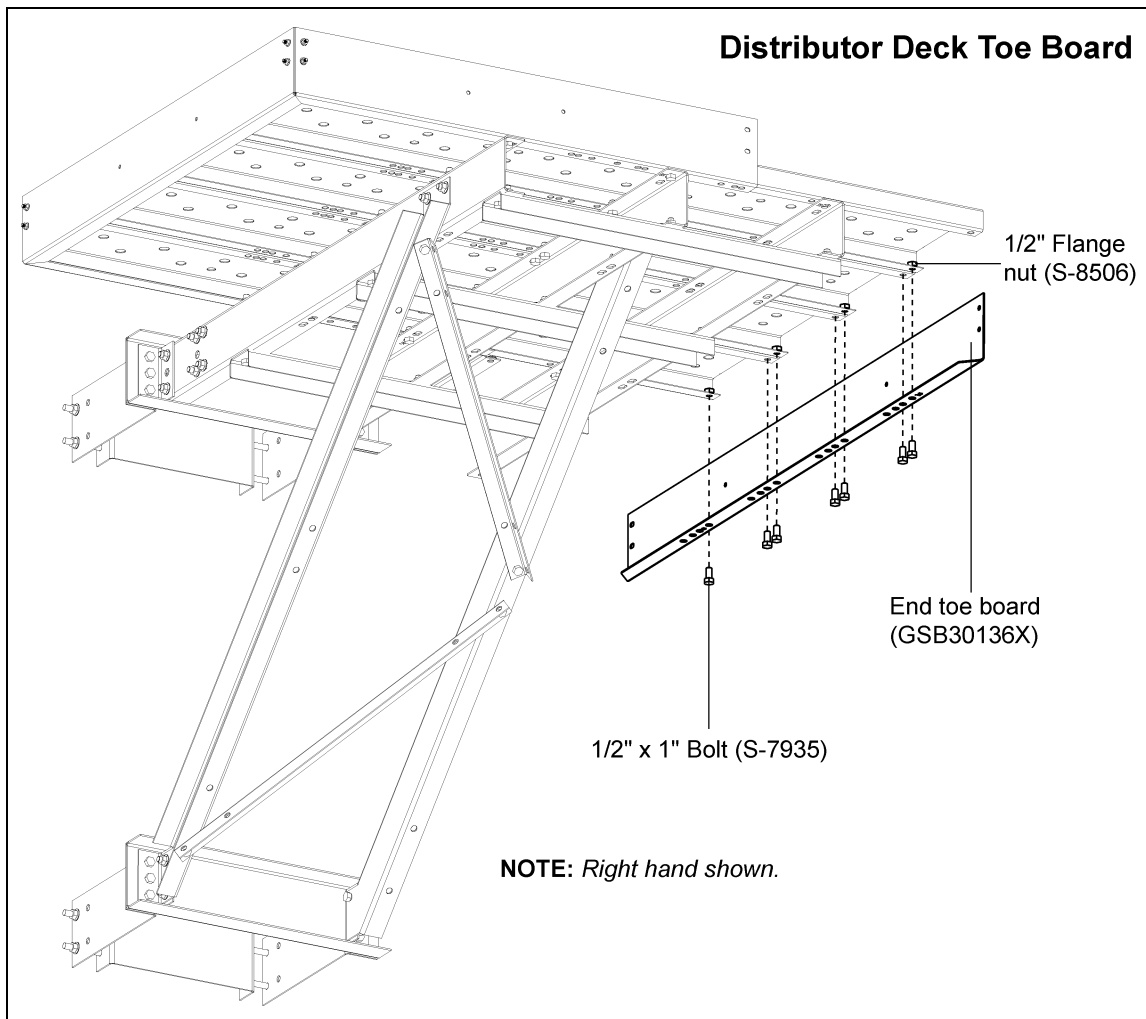

Figure 12F Distributor Platform Toe Board
3. Attach the flange of the toe board short side to the bottom of the 18" decking using two (2) 1/2" x 1" bolt and nuts. Then attach 18" decking to the external platform support using one 1/2" x 1" bolt and nut. (See Figure 12F on Page 93.)